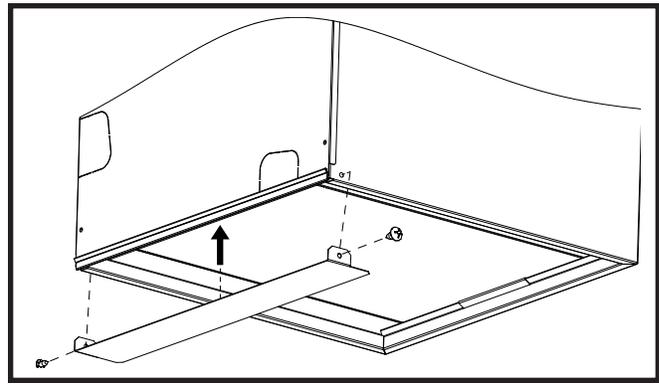

Figure 17. Close-Off Plate
- a. Remove two screws (Figure 17) from the sides of the A/C coil box.